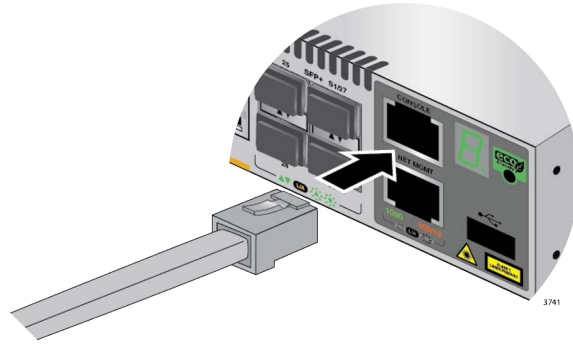

Figure 73. Connecting the Management Cable to the Console Port
3. Connect the RJ-45 connector on the management cable to the Console port on the front panel of the switch. Refer to Figure 73 on page 144.